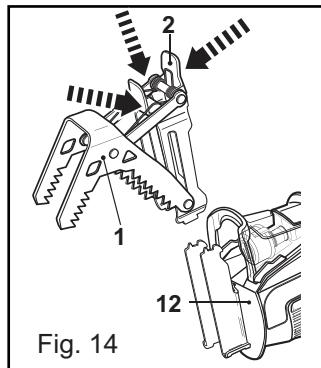

Fig. 14
- to attach, align the two steel tabs on the bottom of the serrated gripping jaw (1) with the two holes at the base of the serrated gripping jaw support rail (12) align and slide it onto the support rail while pressing the serrated gripping jaw release lever (2). (fig. 14)
- Release the serrated gripping jaw release lever (2) and ensure the serrated gripping jaw release lever (2) is locked in place (fig. 14).
- pull on the release lever (2) to test if the serrated gripping jaw (1) sits properly in place. it should not be possible to pull it off.